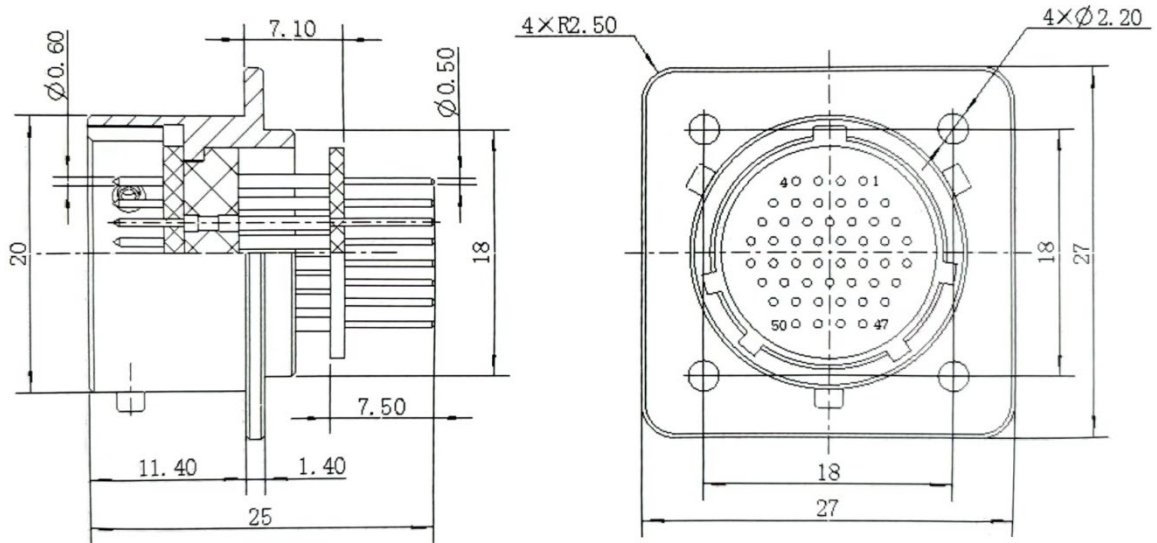

Figure 5. ZH127-2-50/18-BL1-1-B receptacle product dimensions drawing
- The overall dimensions of the ZH127-2-50/18-BL1-1-B receptacle product are shown in Figure 5.